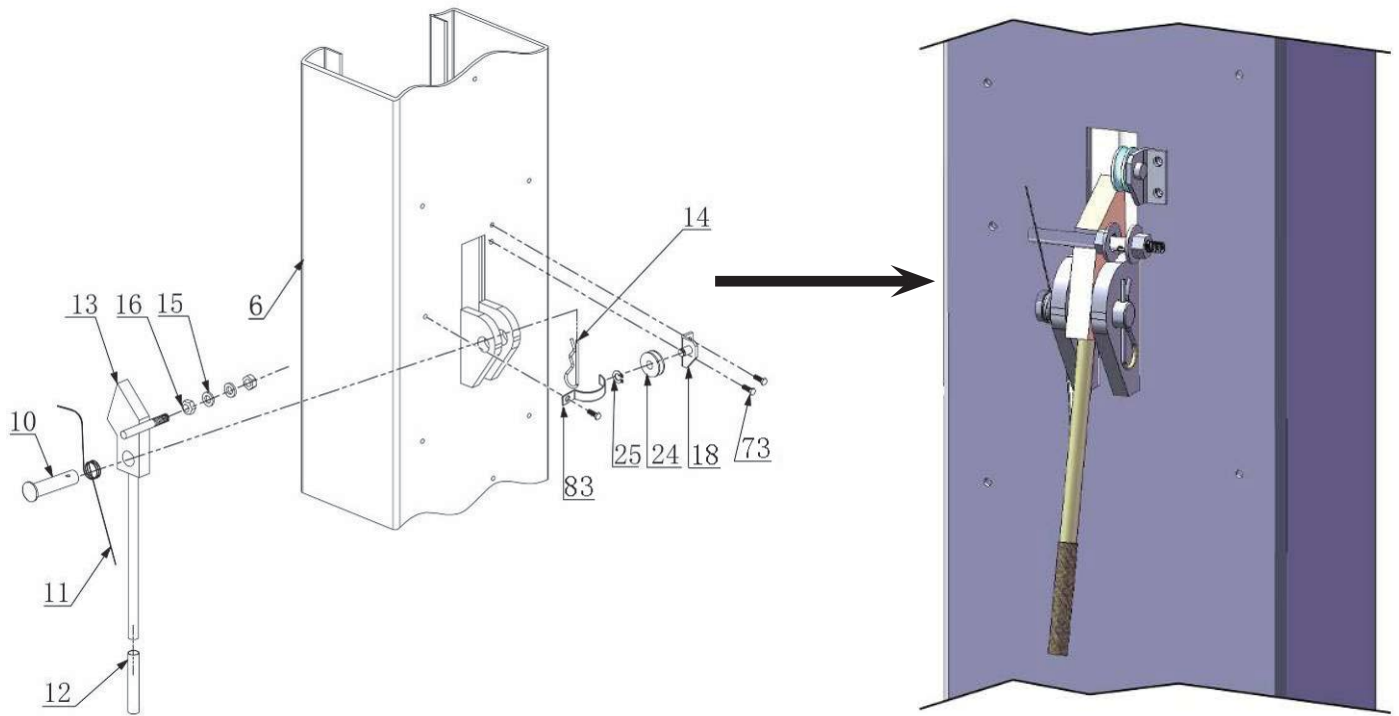
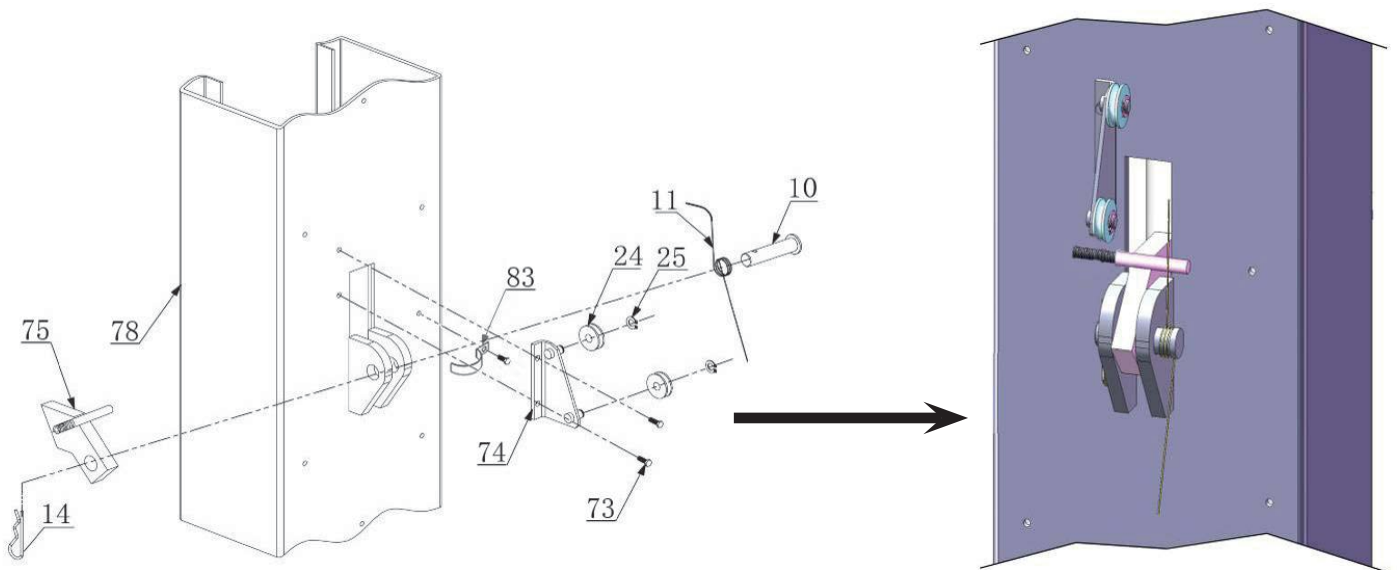

Fig.18 - Power Side Safety Device
Fig. 19 - Offside Safety Device
I. Install safety device (See Fig. 18 & Fig. 19).